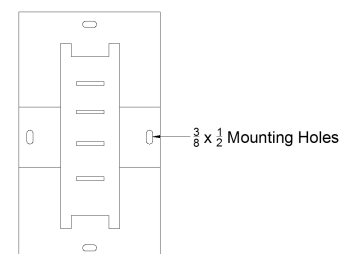

Figure 6
- 4.2.1 Place the flange halves around the duct where it passes through the wall, floor, or ceiling. Using appropriate hardware, attach flanges to wall, floor, or ceiling. (See Fig. 6)